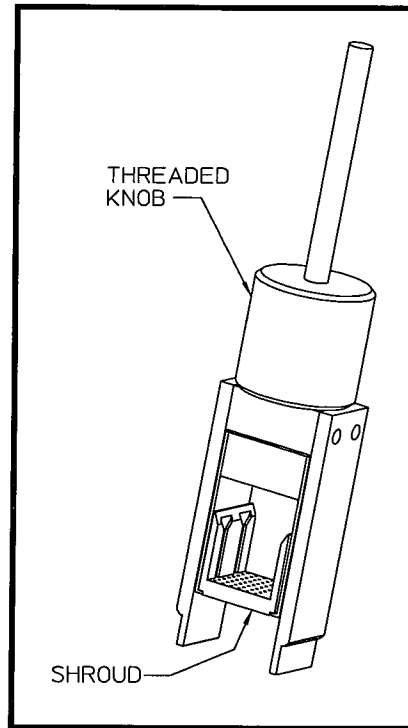

Fig. 6
5. Continue slowly turning the threaded knob clockwise until the shroud is lifted clear of the pc board as shown in Fig. 6.